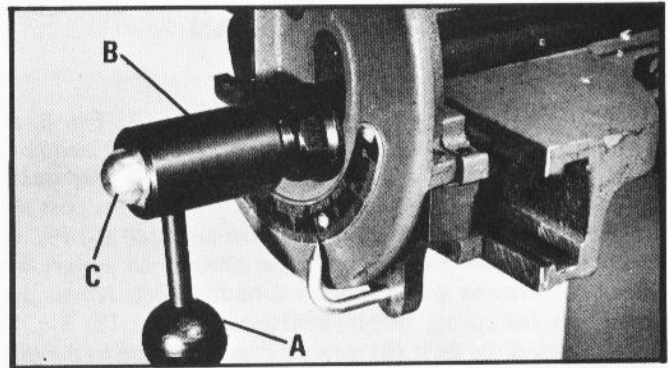

Fig. 12
To move the fence across the table, pull the fence adjusting handle (A) away from the machine until the handle body (B) Fig. 12, engages the nut (C). Loosen the nut (C), move the fence to the desired position and retighten nut.